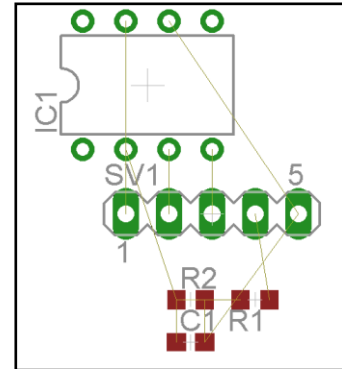

Figure 4: Component positioning.
6. With your layout completed (Figure 4), it is time to add the traces. Select the 'Route' tool (🔧).